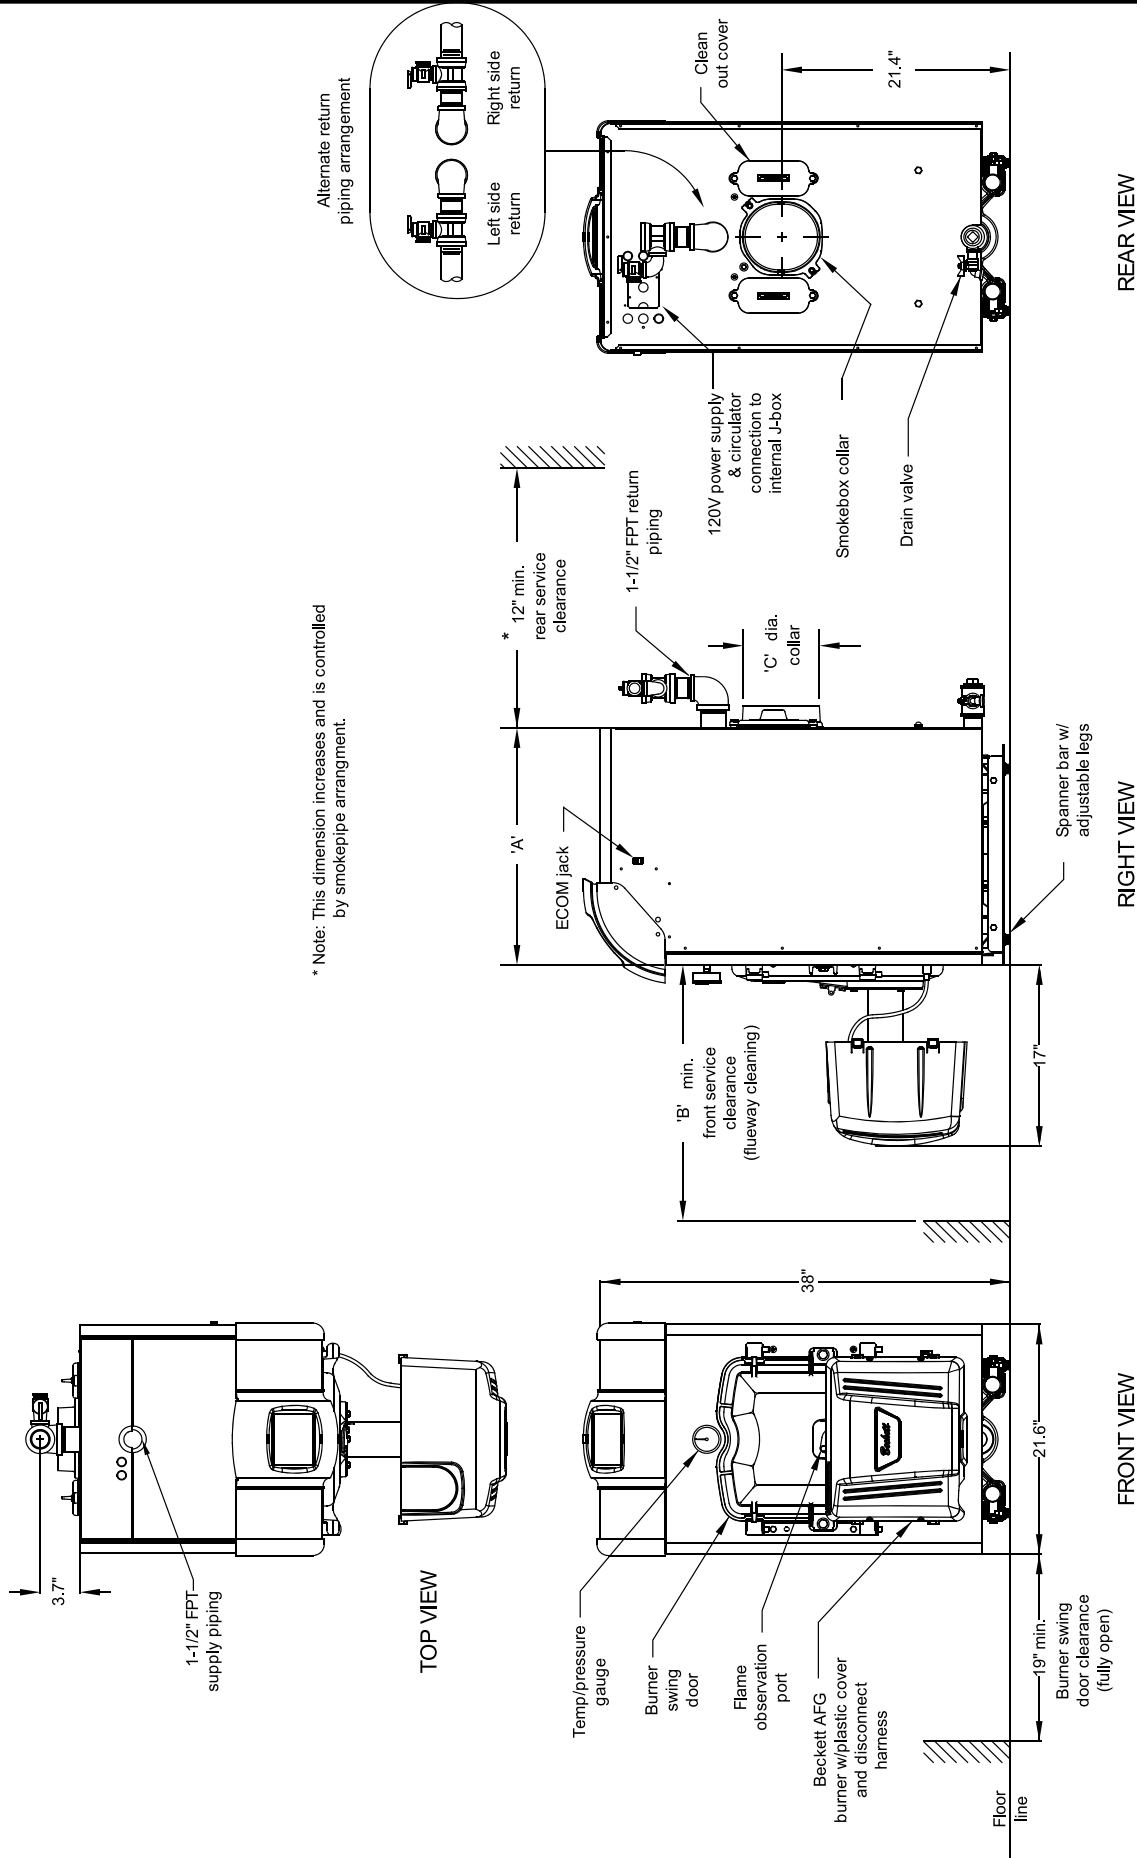

Figure 1: MPO-1Q84 Thru MPO-1Q231 Water Boiler
Table 1A: Dimensional Data (See Figure 1)
2. Any claims for damage or shortage in shipment must be filed immediately against the carrier by the consignee. No claims for variances from, or shortage in orders, will be allowed by the manufacturer unless presented within sixty (60) days after receipt of goods.
B. LOCATE BOILER in front of final position before removing crate. See Figure 1.